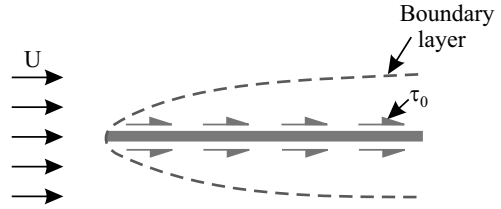

Fig. 14.3. Thin plate parallel to flow.
- When a thin plate is placed *parallel* to the direction of flow (Fig. 14.3), the pressure drag will be zero ($\theta = 90^\circ$) and the total drag is *entirely due to shear stresses* (and thus equal to friction drag or shear drag).